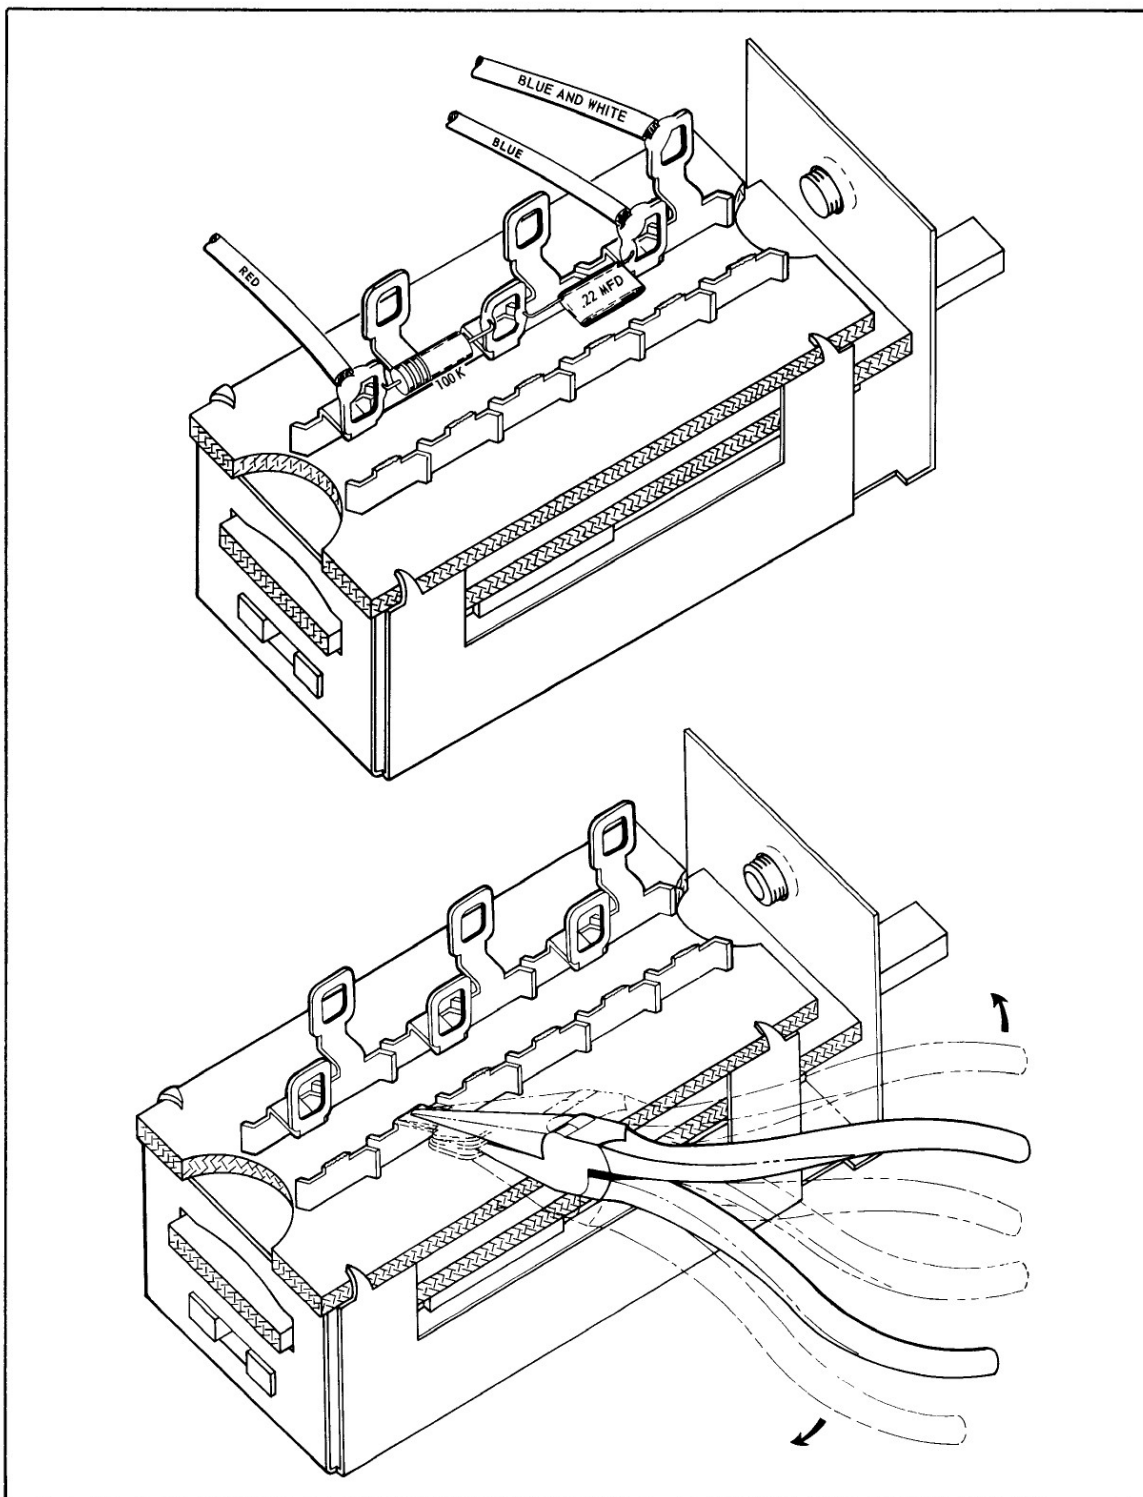

Figure 12-4. Replacement of AltiMatic III Heading Switch
5. Make sure that all the wires on the switch are the same color as those shown in Figure 12-4. If not, identify any wires which are different, remove all wires and components from the Heading Switch.
6. Orient the switch so the shaft is extended to the right and the terminals are visible. (Refer to Figure 12-4.)
7. Break off all the terminals in the BOTTOM ROW by holding them individually on the horizontal part as shown in Figure 12-4 and continue to bend back and forth until the terminal breaks.